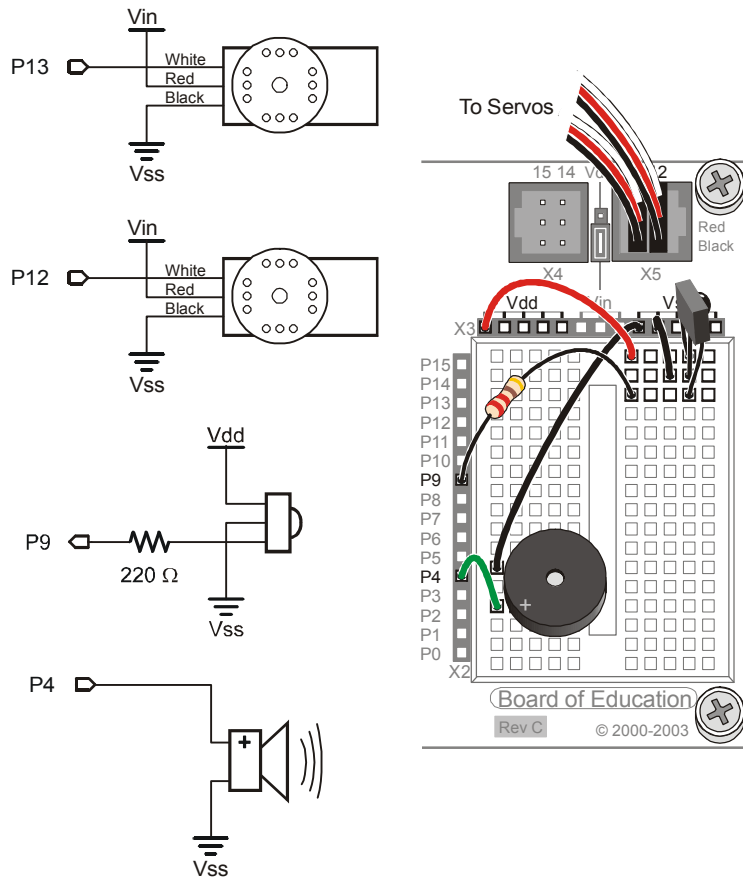

Figure 1-15
- ✓ Build/rebuild and test the Boe-Bot servo, IR detector, and piezospeaker circuits shown in Figure 1-15 as needed.